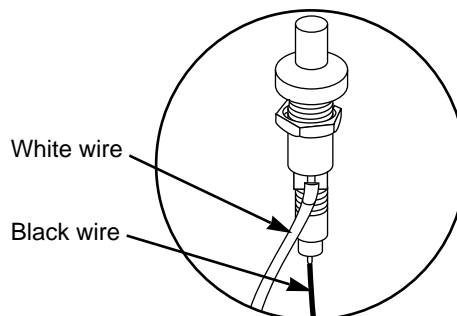

Figure 15
- Check that both the white and black ignition wires are attached properly. Figure 15.